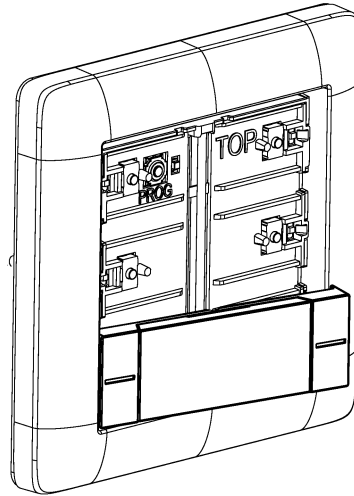

Figure 6: Slide one side of the rocker into place
- Slide the side of the rocker into place (Figure 6).